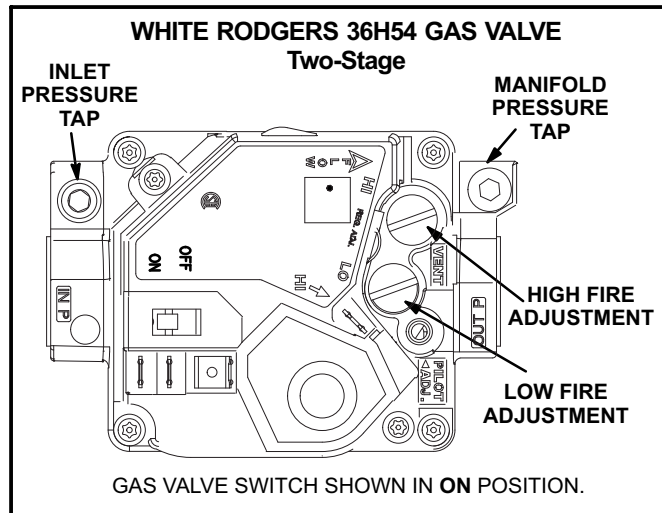

FIGURE 17
Gas Valve Operation for Honeywell VR8205Q / VR8305Q and White Rodgers 36H54 (figure 17)
- 5- Turn gas valve switch to **OFF**. See figure 17.
- 6- Wait five (5) minutes to clear out any gas. If you then smell gas, **STOP!** Immediately call your gas supplier from a neighbor's phone. Follow the gas supplier's instructions. If you do not smell gas, go to the next step.
- 7- Turn gas valve switch to **ON**. See figure 17.